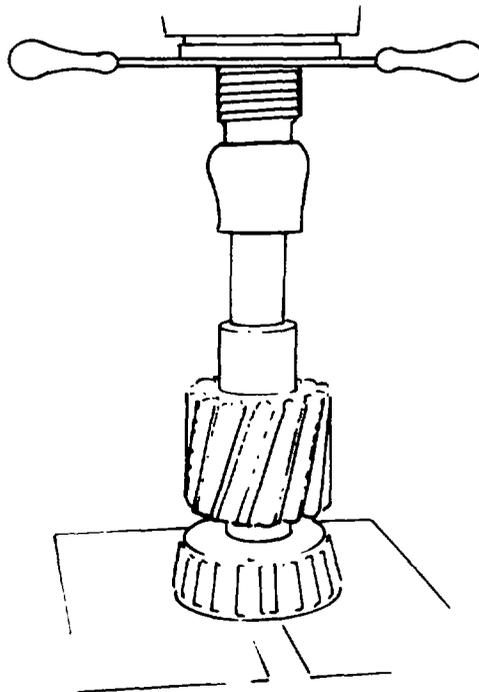

Fig. 314 — Installing Left-hand Bearing Cone
- c. Install the left-hand bearing onto the keyway end of the shaft, using the hydraulic press (see Fig. 314).